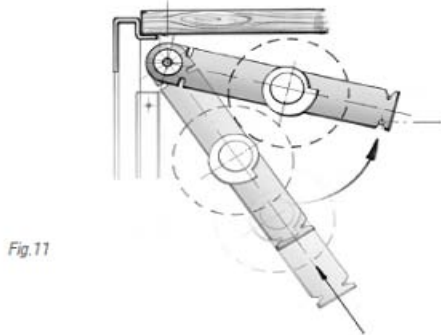

Fig. 11
2. Place the tambour unit onto the positioning dowels with the guide roller at the front of the cabinet, and screw the bracket into the pre-drilled fixing holes on both sides as shown in Fig. 11.